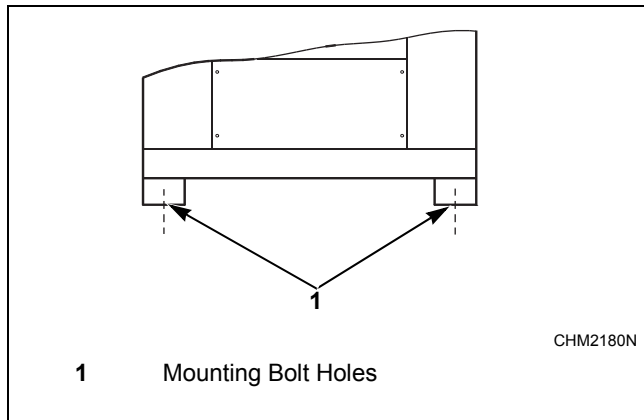

Figure 14
The machine must be placed on a flat, solid surface (metal base, concrete or solid ground). It is recommended that the machine be anchored (M16) on the provided places (1) in the base, especially in case of a plinth. Refer to *Figure 14*.